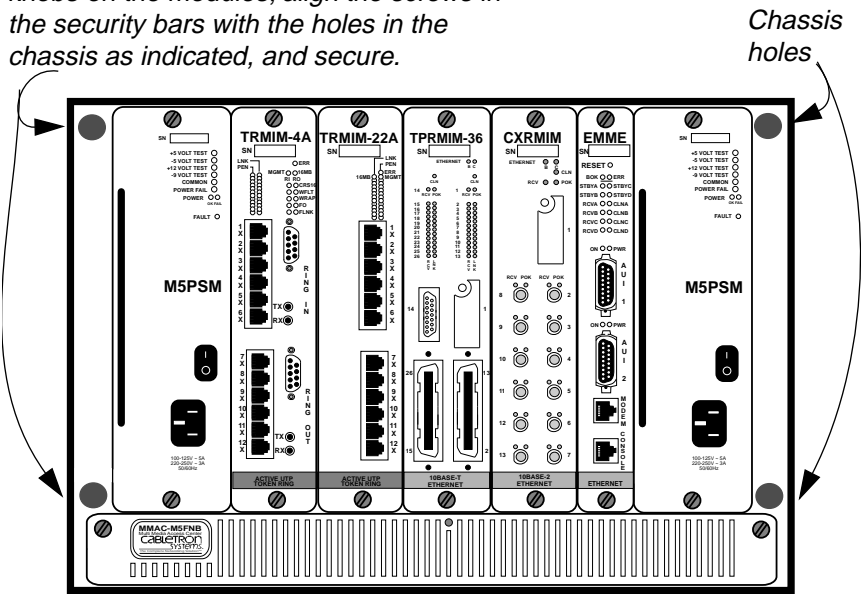

Figure 3-6. Installing the Security Bars
2. Place one of the security bars across the top row of knurled knobs securing the modules and panels to the chassis; align the screws in the security bar with the holes in the chassis (as illustrated Figure 3-6, below), and tighten the screws. Repeat the procedure with the second security bar, using it to cover the bottom row of knurled knobs.